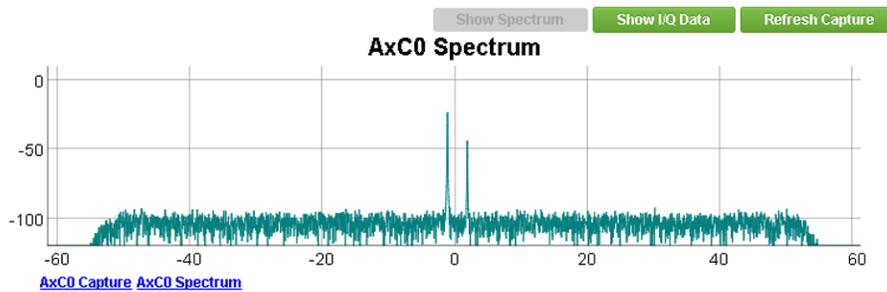

Figure 22. RX Signal Capture at DSP (2-Tone Data Pattern)
12. Navigate to the *RX Signal Capture @ DSP* page and press *Refresh Capture*. This sends a request to the DSP to perform a signal capture of the baseband data on the RX side (that is, after it has been looped back from the DAC38J84 to the ADC14X250 and after being down-converted and filtered by the DFE). The test pattern transmitted is recovered at the DSP after the DAC38J84 to ADC14X250 loopback. To view the RX signal capture at DSP, see Figure 22.